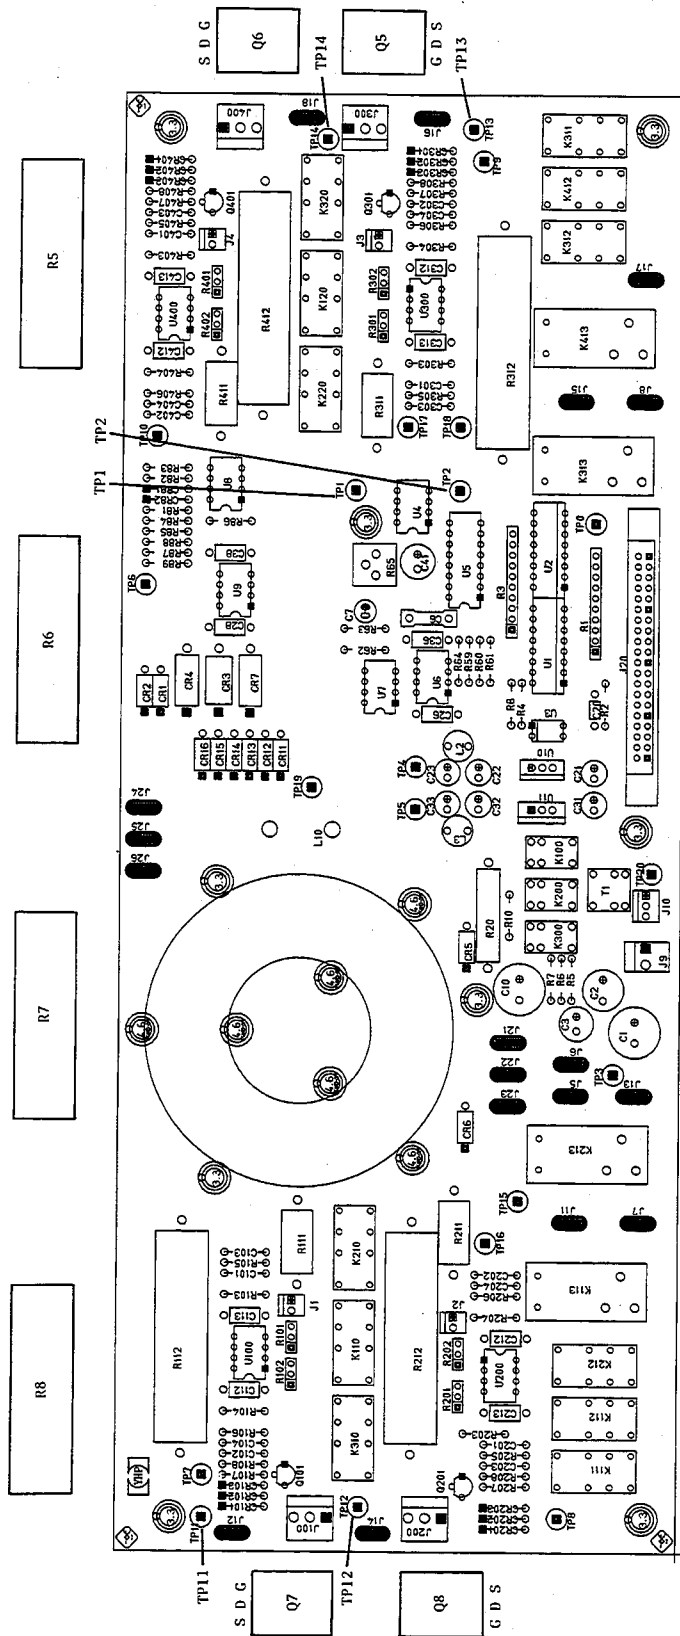

Figure 5-9. Bias Current Source Component Locations
5. Use a DVM to check that the voltage drop across the sense resistor (V_{sense}) is within the range given by the following equation. (V_{sense} should be in between 0.9 V and 1.1 V, when the bias current is set to 1.00 A, 5.0 A, or 20.0 A.) The sense resistors which are selected according to the bias current range, are listed in the following table. The sense resistor locations are shown in Figure 5-9.